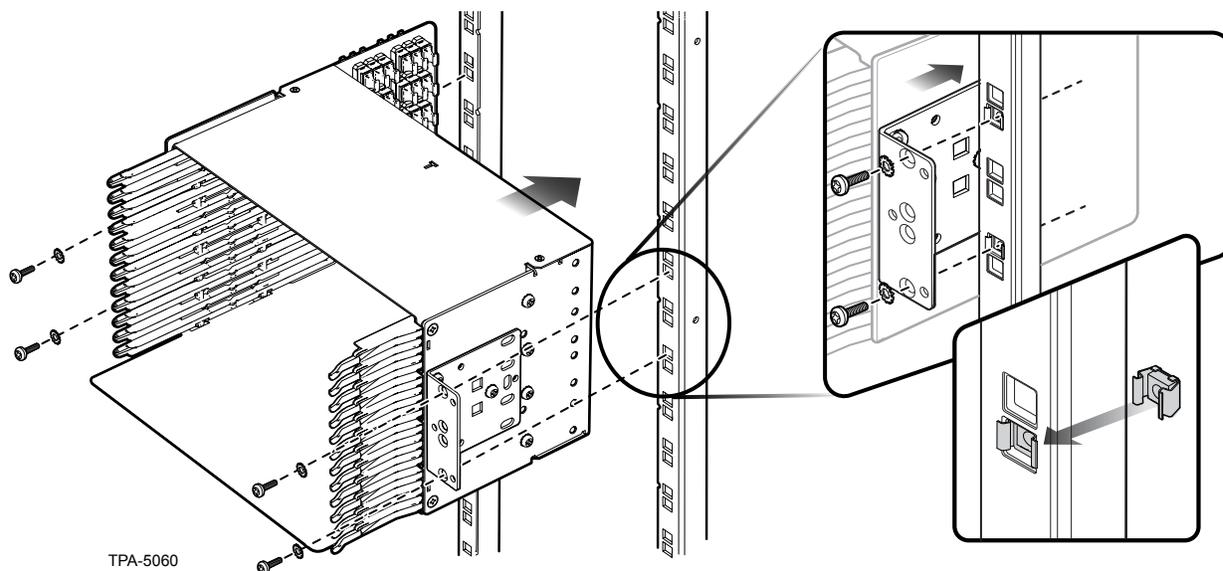

Figure 2
Step 2: Install the housing into the rear access frame (Figure 2) as described in SRP 003-948.